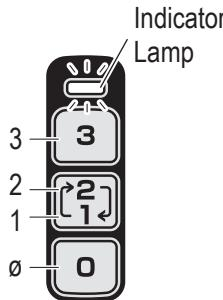

Fig. 12
2. The Indicator Lamp (Fig. 12)